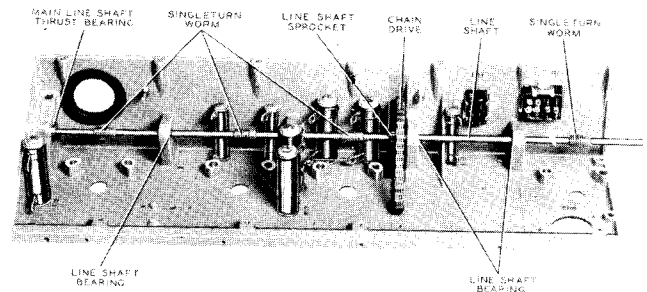

Figure 5-16. Autotune Casting
(2) In order to replace these parts it will be necessary to remove the entire line shaft assembly. Care must be exercised to keep each gear in the proper order when disassembling the line shaft. None of the gears are interchangeable. Refer to figure 5-16.